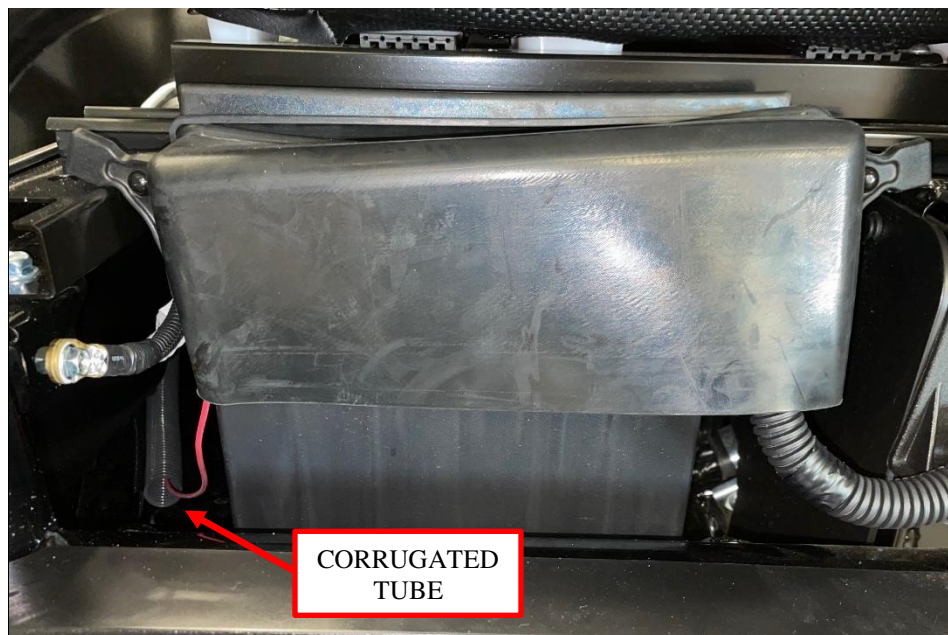

Figure 10: Wire goes through corrugated tube into battery area.
8. Remove the corrugated tube cap at the battery under the driver's seat. Route the battery jumper wire from the front of the vehicle to the battery, through the corrugated tube. See Figure 10. If winch cables are already run through the tube, you may need to use a fish tape or similar tool to pull the ring terminal through the corrugated tube. Alternatively, you can remove the winch wires, tape the winch wires and battery jumper wire into a bundle, and then run the bundle back through the corrugated tube to the battery for reinstallation.